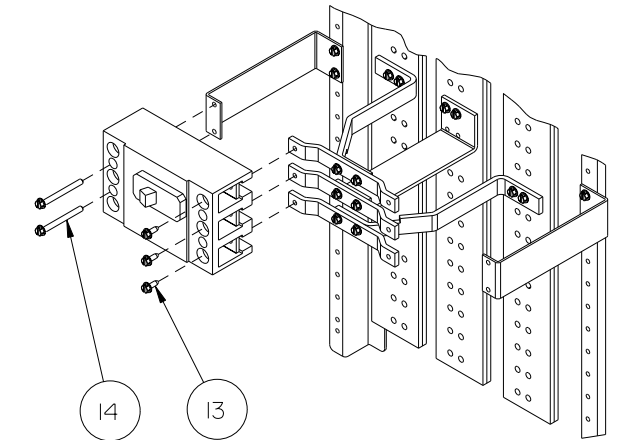

Figure 7
8. Reference fig. 7 - Install a circuit breaker by inserting one 1/4-20 X 5/8" screw (item 13) into each of the three contacts on the line side of the breaker and into the 0.228" diameter holes at the left end of the A ϕ , B ϕ and C ϕ link bars and tighten. Insert two 1/4-20 X 2-3/4" thread forming screws (item 14) into the two mounting holes at the load side of the breaker and into the two 0.228" diameter holes in the QJ mounting bracket and tighten. Torque all connections to the values as specified on the rear of the dead front.